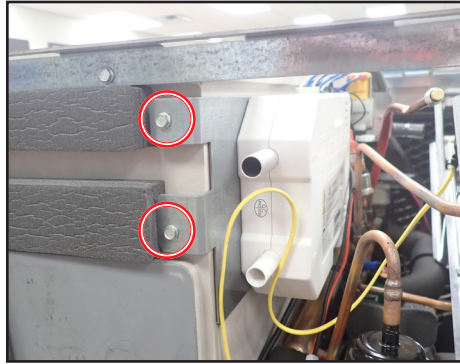

Fig. 7. TrueZone bracket screw locations.
8. With the existing hardware, install the TrueZone assembly. See fig. 7.